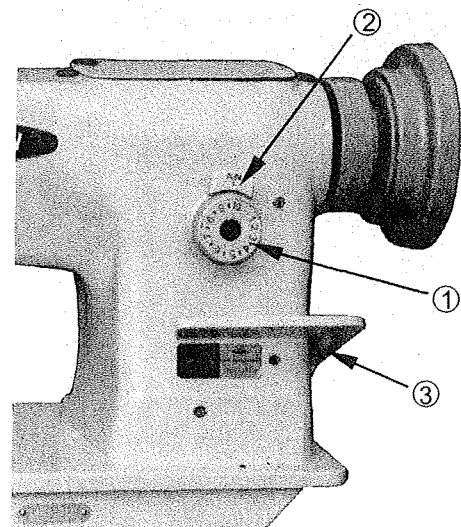
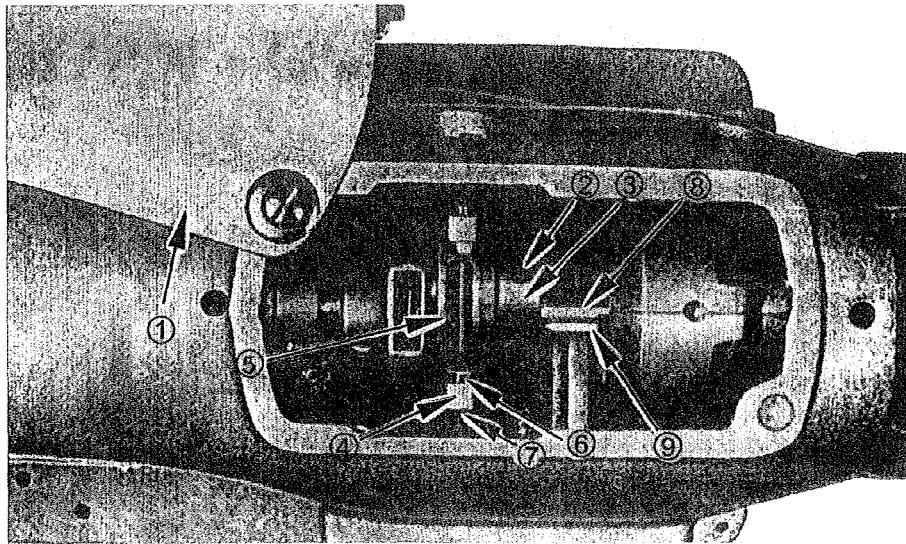

Fig. 12
Fig.17
Adjusting the stitch length (Fig. 12)
1. Place the feed regulating dial (②, Fig. 12) on the minimum position.
When adjustment is required, use the following procedure to change the position of the cam (③, Fig. 17):
1. Open cover plate (①, Fig. 17) and loosen two screws (②, Fig. 17).
2. Normally put the arrow mark of the cam (③, Fig. 17) on the V ditch (⑨, Fig. 17) of arm shaft (⑧, Fig. 17).
3. As fine adjustment, turn the machine pulley to place the needle at 1mm up from its lowest point and pushing the stitch length regulating lever (③, Fig. 12) up and down, turn the cam (③, Fig. 17) and set this at the point both the needle and the feeder rest.
Incorrect clearance between the fork (④, Fig. 17) of feed forked connection and feed fork collar (⑤, Fig. 17) will bring irregular stitch length or overheating, etc. To adjust this, open the cover plate (①, Fig. 17).
1. To increase the clearance, loosen the screw (⑦, Fig. 17) and turn the screw (⑥, Fig. 17) to the left or counter-clockwise.
2. To decrease the clearance, loosen the screw (⑥, Fig. 17) and turn the screw (⑦, Fig. 17) to the right or clockwise.